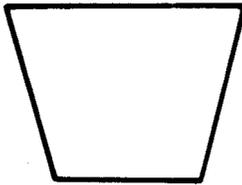

Fig. 14—Manual Operation Symbol
2.14 *The manual operation symbol* (Fig. 14) represents any off-line process geared to the speed of a human being, without using mechanical aid.